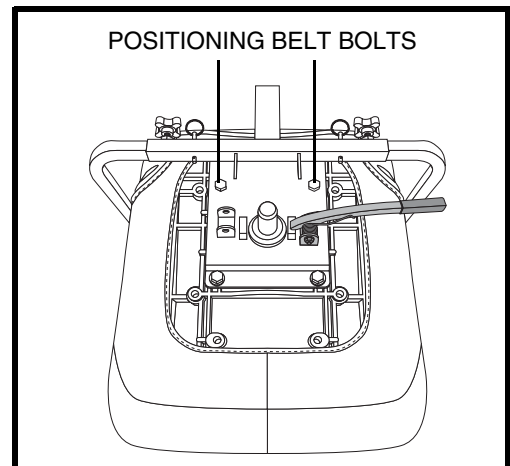

Figure 21. Positioning Belt Bolts
3. Use a wrench to remove the two rear bolts on the outermost part of the seat frame See **figure 21**.